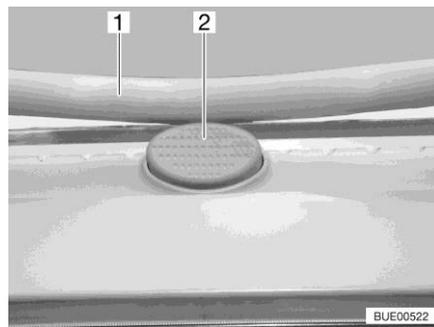

Fig. 119 Safety knob (Heki skylight)
- Press the safety knob (Fig. 119,2) and pull the bar (Fig. 119,1) down with both hands.
- Push the bar upwards with both hands until it is above the safety knob (Fig. 119,2).